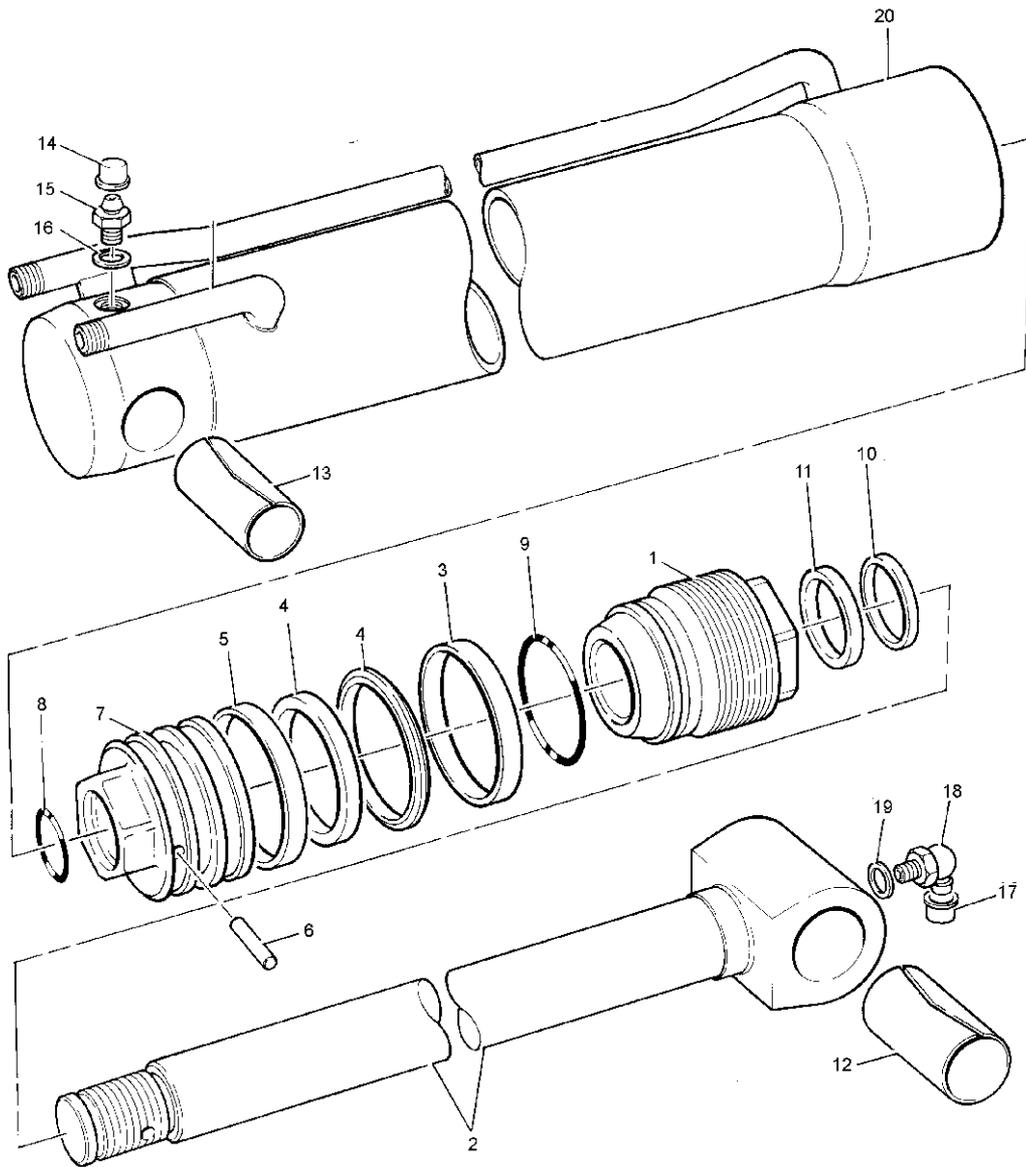

**Fig 228.**
- a Drill through piston head into piston rod. Use an undersized diameter drill first as a guide and then drill with the correct size diameter drill to suit, see ⇒ Fig 228. \(□ E-277\) and ⇒ Table 50. Drill Diameters and Depths \(□ E-277\).